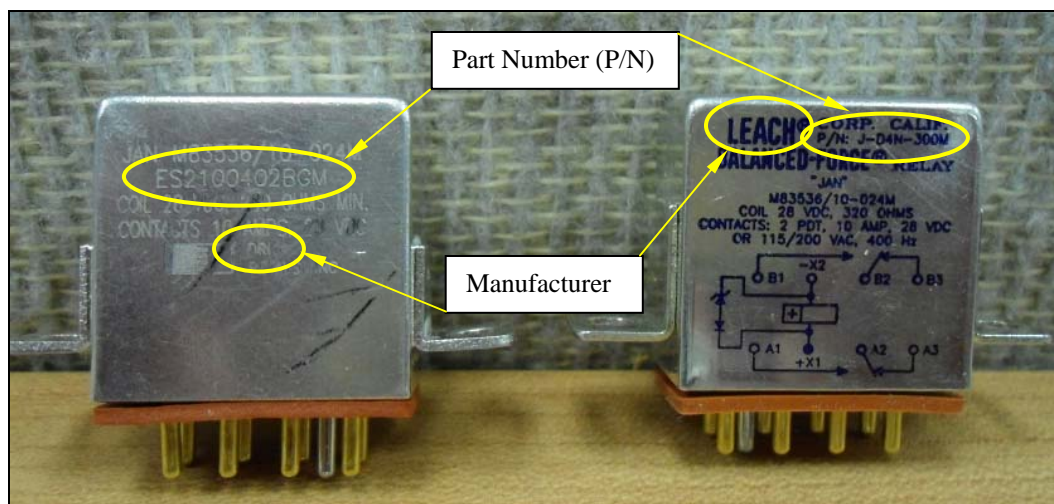

Figure 2. Trim Relays (DRI relay shown on left; Leach relay shown on right)
- B. Inspect the trim relays (4 total) for the manufacturer information printed on the unit (Figure 2).